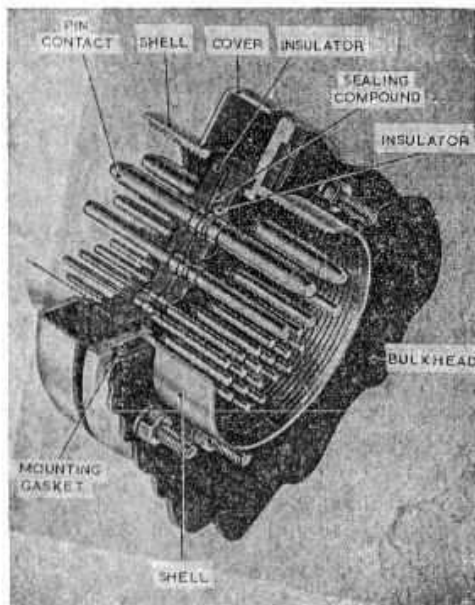

Fig. 11. Pressurised bulkhead unit
25. This style of unit (fig. 11 and 12) was manufactured in aluminium and differs from the normal type bulkhead unit in that it has a round flange integral with the shell. The shell is strengthened and contains two identical insulator discs of phenolic material bonded together by sealing compound with the double-ended pins moulded in position. A sealing gasket is fitted between the insulator and the shell. Completing the sealing requirement is a mounting gasket fitting in a recess of the front face of the flange and a unit cover fitting against the rear face of the flange. Fixing bolts and nuts (four for sizes A and Z; eight for sizes B, C, D and E) hold the unit together and secure the unit to a bulkhead. The unit is proof against a pressure of 15 lb/in² but is not suitable for use in temperatures exceeding 85 degrees C. (para. 2(3)).